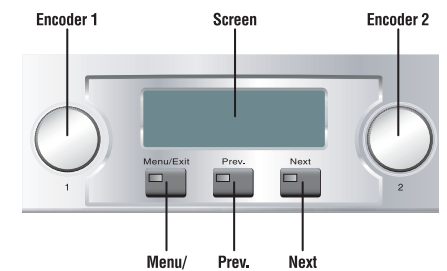

Figure A.3 The LCD Control Screen
- If you want to load DSP presets or perform diagnostics using the amplifier's LCD control screen (Figure A.3), see Section 4.2.
4. Turn down your mixer master faders. Plug the power cord into the amplifier and then into an AC outlet. Turn on the front-panel power switch. The LCD Control Screen will light up (Figure A.3).
6. Play a program through your mixer. Set its level to peak at 0 dB or 0 VU maximum on the mixer meters. Gradually turn up (CW) the amplifier Encoder knobs (Level controls) to the desired volume for CH2. Press **Prev** and repeat for CH1. Press **Exit** when done.
8. Turn down your mixer master faders. Plug the power cord into the amplifier and then into an AC outlet. Turn on the front-panel power switch. The LCD Control Screen will light up (Figure A.3).
10. Play a program through your mixer. Set its level to peak at 0 dB or 0 VU maximum on the mixer meters. Gradually turn up (CW) the left Encoder knob (Level control) to the desired volume for CH1. Press **Exit** when done.